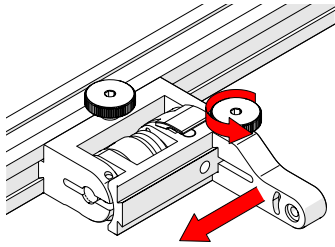

Fig. 63 - Position swing arm
5. Loosen the swing arm knob and slide the swing arm to the opposite end of the probe holder bracket (Fig. 63) or the preferred position. Tighten the swing arm knob.